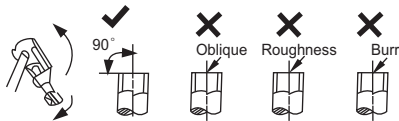

Fig. 14 – Pipe Cutting
- a. Cut the pipe, with a pipe cutter, at 90 degrees (see Fig. 14).